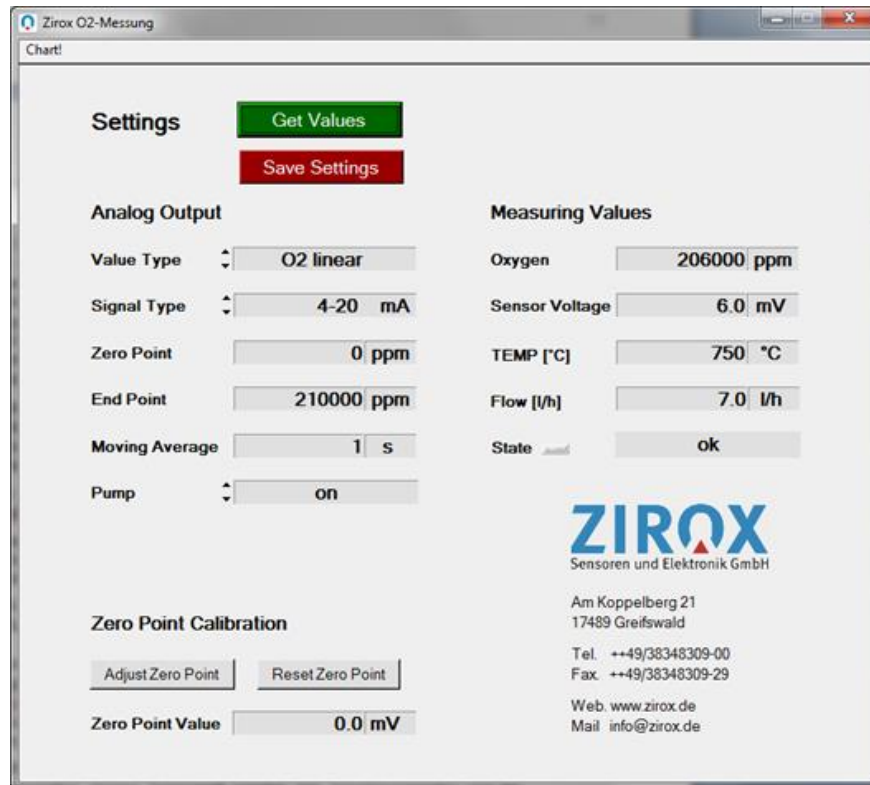

Figure 8: Parametrization menu
First, select the COM-port of the digital interface (mostly COM1). After closing the COM port input, the parametrization menu appears (see Figure 8). In this menu the range of the analog output (0...20 mA or 4...20 mA) can be adjusted (Zero Point in vol.%, End Mark in vol.%). You can also select which variable (e.g. O₂ concentration linear or sensor voltage) is issued via the analog output. Furthermore, the delay factor in seconds can be selected. As the device does not contain a gas pump, the "Pump" field is meaningless.
4. Loosen the nut and insert the tubing with preset ferrules into the fitting body. Fig. 8.